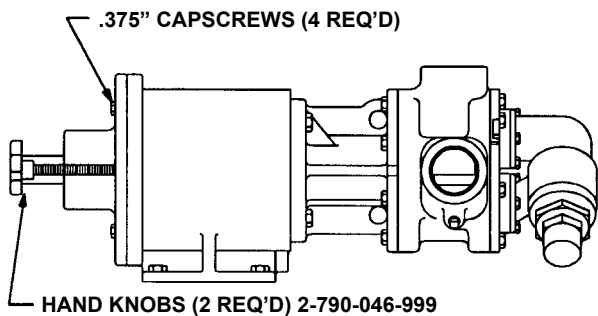

FIGURE 7
1. If unit has a spacer coupling then bracket of coupling can stay bolted to base. Without spacer coupling, either the reducer will need to be removed or the coupling unbolting. Remove piping to pump, provide a minimum of 4" of clearance beyond end of coupling shaft. Insert (2) .5" U.N.C. handknobs which have a minimum of 4.5" of full threads into the two tapped holes at 9 and 3.00 positions on the back of the bearing housing. Remove the (4) .375 capscrews. **See Figure 7.**